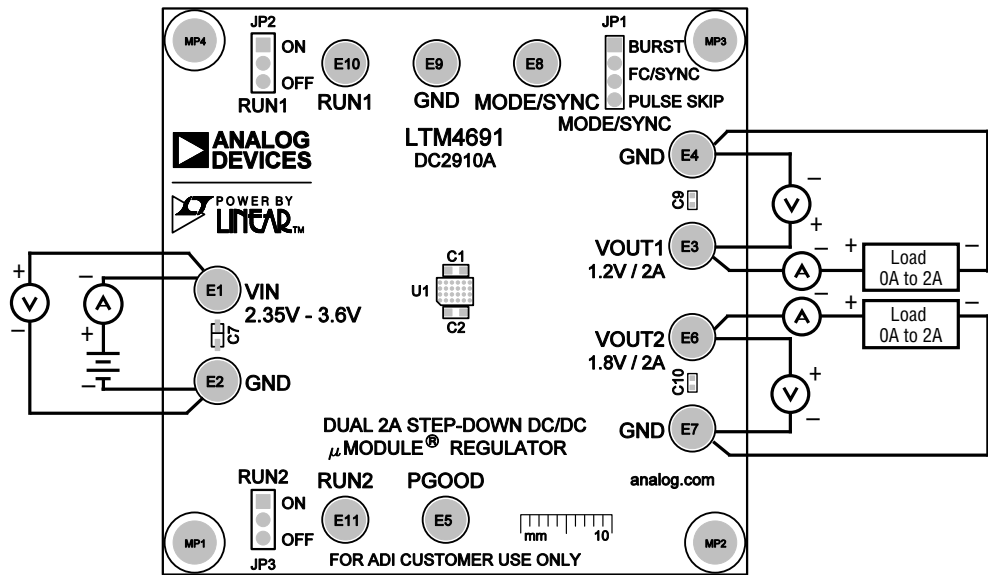

Figure 1. Proper Measurement Equipment Setup
Demonstration circuit 2910A is easy to set up to evaluate the performance of the LTM4691. Refer to Figure 1 for the proper measurement equipment setup and follow the procedure below.
2. Connect the output loads between V_{OUT} and GND (Initial load: no load). Refer to Figure 1.